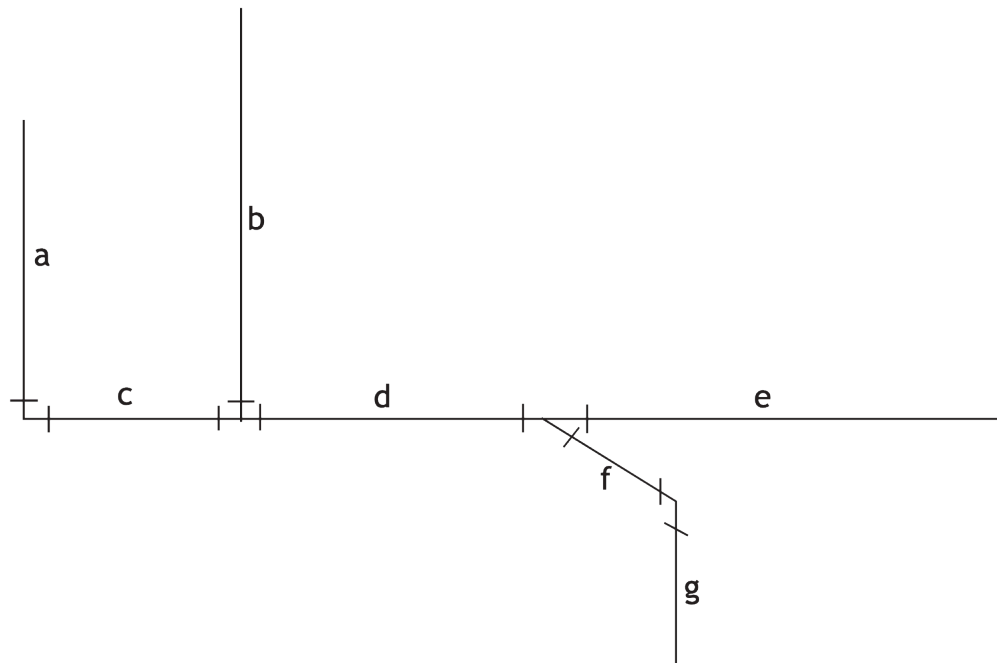

Figure 5 Illustration for Question 11 and 12
11. Using a metric tape, calculate the lettered dimensions in Figure 5. The scale is 1:20.
12. If the scale in Figure 5 were 1:50, what would the dimensions be?